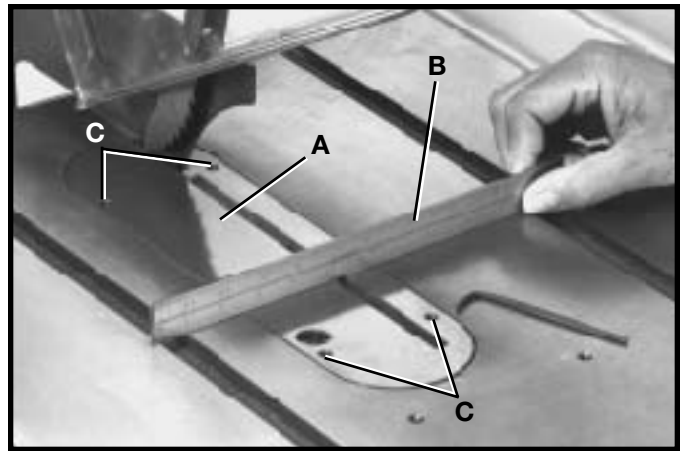

Fig. 67
Place a straight edge (B) across the table at both ends of the table insert as shown in Fig. 67. The table insert (A) should always be level with the table. If an adjustment is necessary, turn the adjusting screws (C), as needed. Four adjusting screws (C) are supplied.